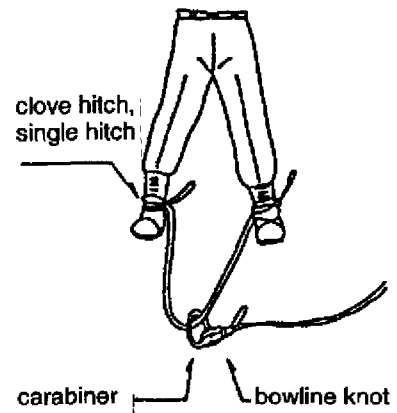

Fig. 7-35
(2) Equipment/Materials
(3) Setup
- b. The support person forms a bowline at one end of the base rope, clips a carabiner to it, and attaches this carabiner to the entry person's sling rope as a safety rope. (Fig. 7-35)
(4) Entry